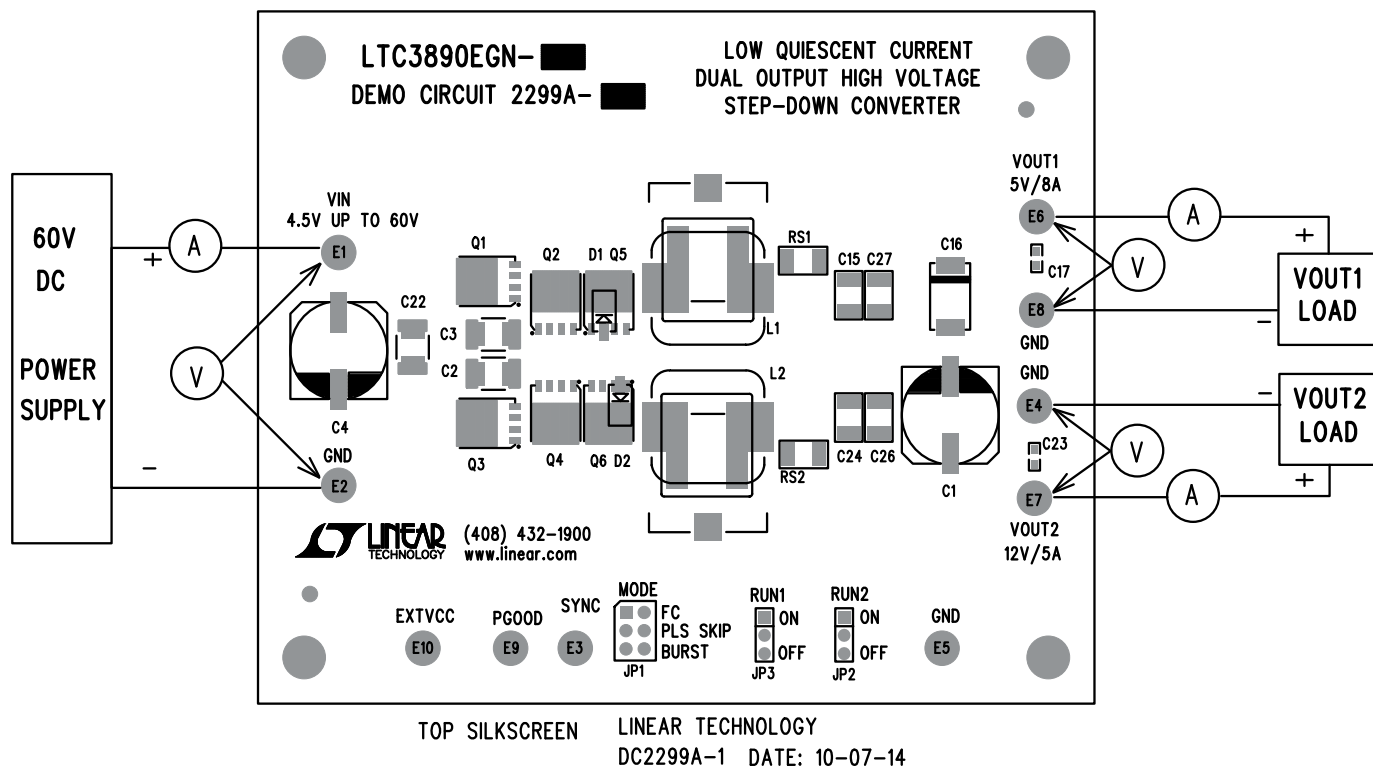

Figure 1. Proper Measurement Equipment Setup
Demonstration circuit 2299A is easy to set up to evaluate the performance of the LTC3890. For proper measurement equipment configuration, set up the circuit according to the diagram in Figure 1. Before proceeding to test, insert shunts into JP3 and JP2 (RUN1, 2) into the OFF position, which connects the RUN pins to ground (GND), and thus, shuts down the outputs. Set jumper JP1 (MODE) into FCM (Forced Counties Mode) position.
1. With the DC2299A set up according to the proper measurement and equipment in Figure 1, apply 20V at V_{IN} . Measure V_{OUT} ; it should read 0V. If desired, one can measure the shutdown supply current at this point. The supply current will be approximately 50 μ A, or less, in shutdown.